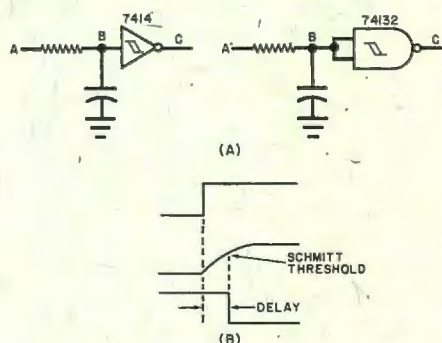

Fig. 11. Schmitt trigger solution.
8. One particular type of TTL logic that will tolerate large values of RC time constants for de-glitching is the TTL Schmitt trigger. Figure 11 shows circuits and waveforms using the 7414 (hex Schmitt) and 74132 (quad 2-input Schmitt) for this purpose. It is still necessary to limit the resistor value to about 330 ohms using these devices. The CD4093 is a CMOS quad 2-input Schmitt trigger device that is very effective for de-glitching and delay using resistor values up to about 100,000 ohms.